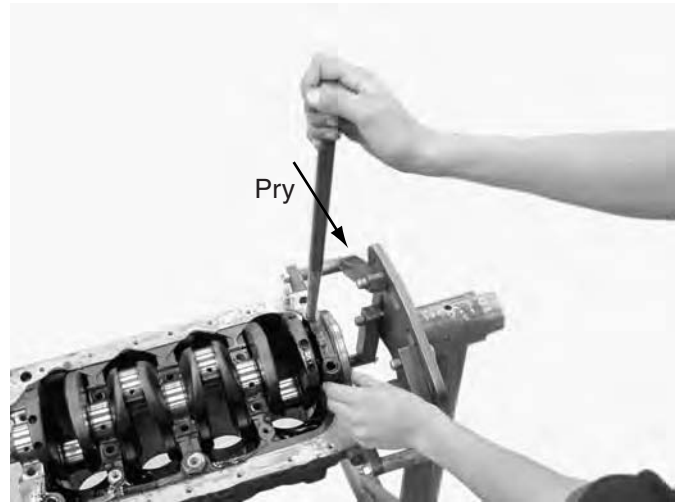

FIGURE 4.82 Pry the main caps loose from the block. (Courtesy of Tim Gilles)
- Remove the main caps. They fit tightly in a register in the block so they will need to be pried loose (**Figure 4.82**).